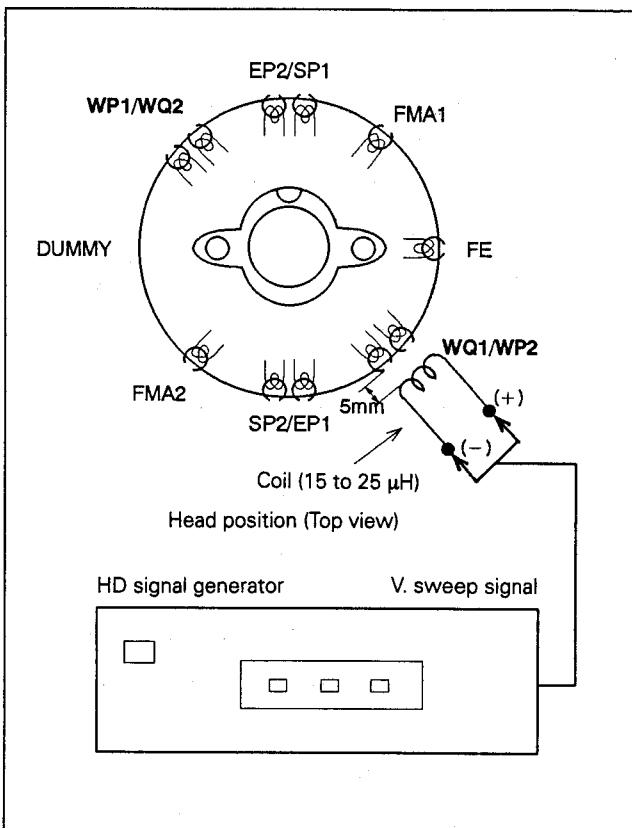

Fig. 3-9-3 Head resonance
Standard value	• See Fig. 3-9-3.
- Make the video sweep signal approximate (5 mm approx.) to the WP2 head with a coil of 15 to 25 μ H as shown in Fig. 3-9-3 while observing the waveform. The WP2 head can be selected by pressing the TRACKING (+) button.